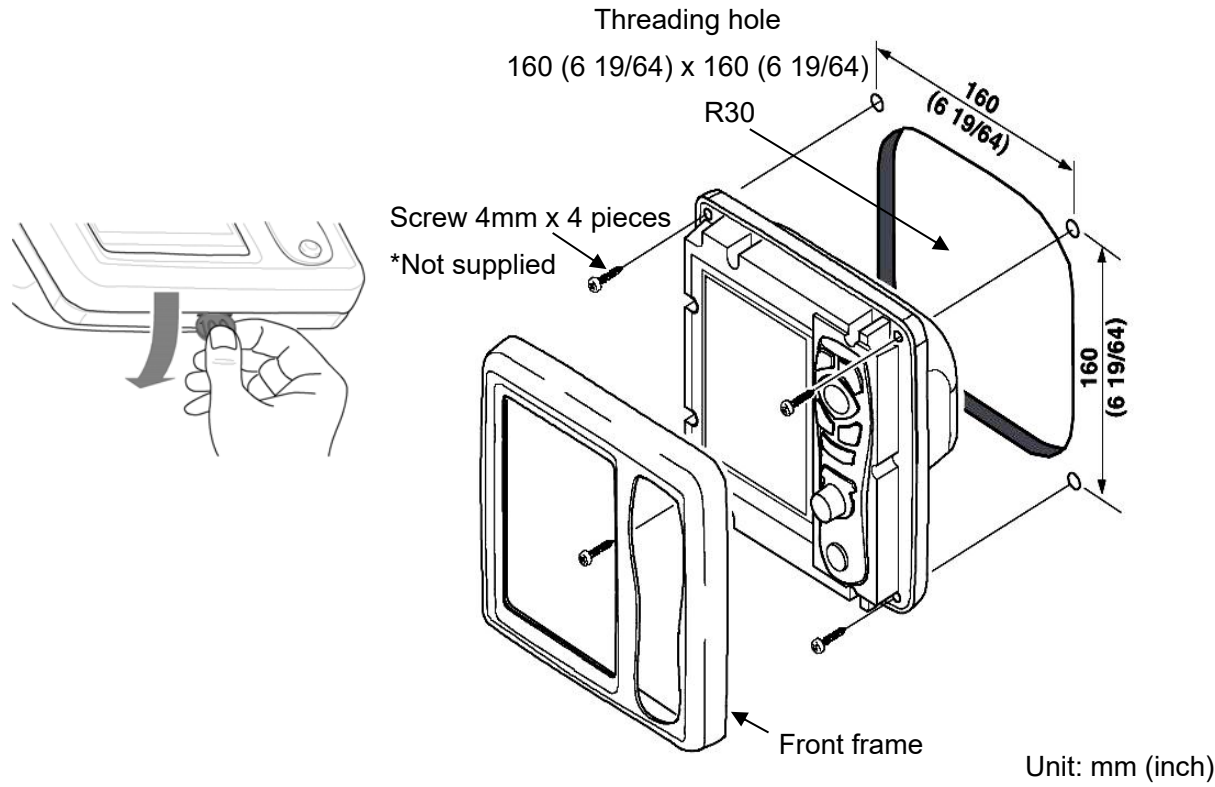
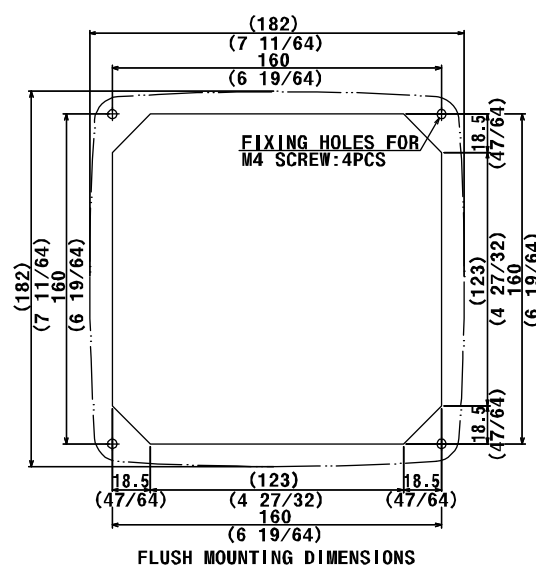

Figure 5.3 Flush-mount Installation
Figure 5.4 Work of flush-mount installation hole
- (1) Make a square hole (160mm x 160mm) at the location to be installed. (See Fig. 5.4.)
- (2) Turn counter-clockwise the knob bolt fixing CVS-126 Display unit to the mounting bracket to loosen it, push the unit to the left side and pull the unit upward. The mounting bracket and knob bolt are not used.
- (3) Confirm that the unit matches with the square holes. If not matched, correct the square hole.
- (4) Remove the front frame of CVS-126 Display unit, pulling it toward you. (See Fig. 5.3.)
- (5) Connect the connectors for power and transducer to the unit respectively.
- (6) Install the CVS-126 Display unit in the installing location (square hole) and fix it with four tapping screws (4mm) (M4 or pan-head). (Prepare 4mm screws suitable for thickness of installing location.)
- (7) Install the front frame removed in step (4).